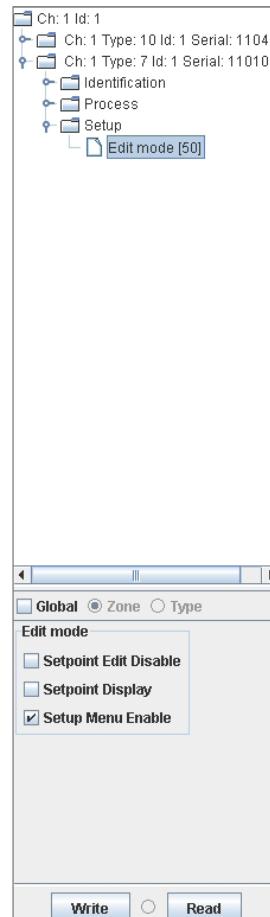

Figure 3
- » Click the “**Setup**” folder and click “**Edit Mode**”, place a check mark in the “**Setup Menu Enable**” only; click “**Write**”. *See Figure 3 below.*